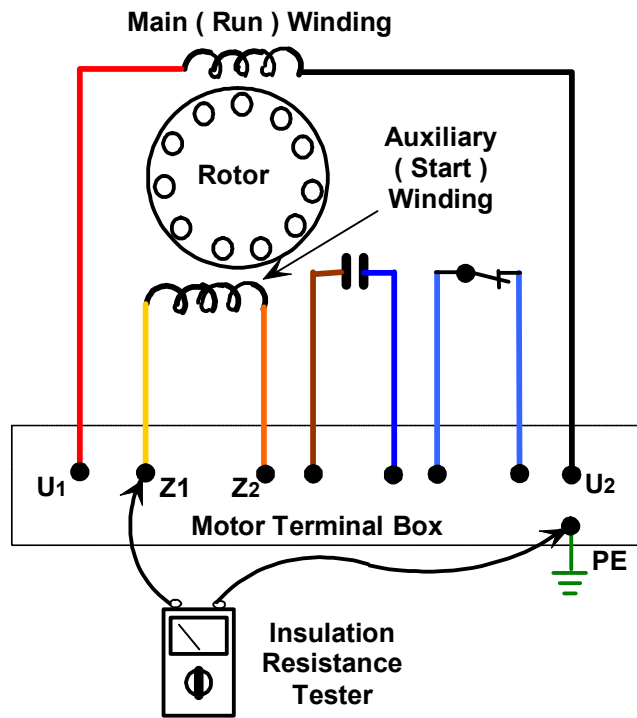

Figure 43
Step 4 Check the insulation resistance between auxiliary winding and frame as shown in Figure 43.